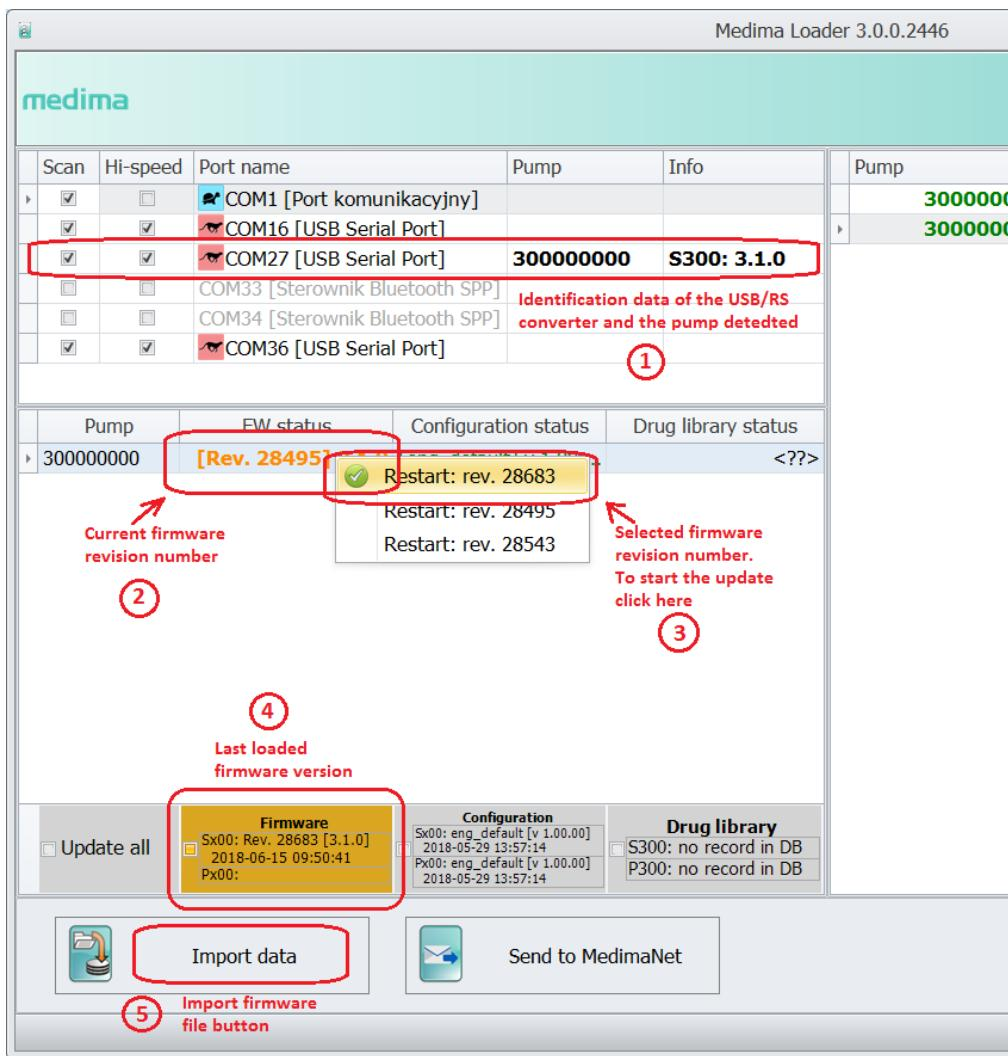

Fig. 10 Loader window
5. Import new firmware file to the Loader module. Use "Import data" button (see 5/Fig. 10).
6. Connect the pump to the mains power supply. Connect the pump (PCA connector) to the PC using **TA-50** cable (RS232c cable with USB/RS converter). Make sure that the pump has been detected. Check if the firmware version numbers are as expected (see 1/Fig. 10).
7. Click right mouse button on current firmware revision number (2/Fig. 10). List of Available firmware versions will be displayed (3/Fig. 10). Select and click left mouse button on firmware number which should be loaded into the pump. The firmware file will be transferred to the pump. Transfer progress is displayed as shown in Fig. 11.